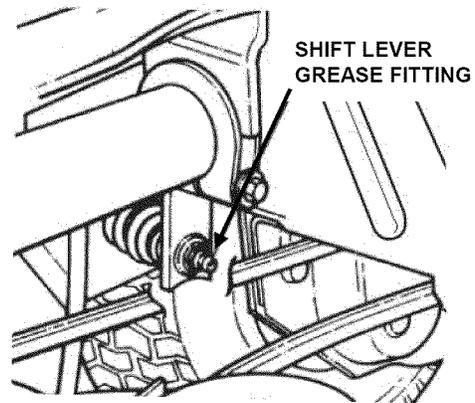

FIGURE 3.5a
1. Lubricate shift lever fitting with two shots of general purpose grease from grease gun. See Figure 3.5a.